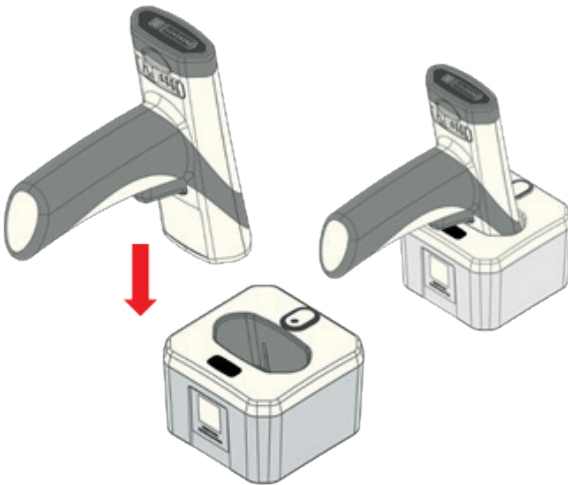

Figure 9 Charging Reader in Charging Station
- To charge the battery installed in the reader, place the reader in the charging station with the scan window facing down (Figure 9). The reader will beep once if the reader is powered off and wakes up, another beep if the reader has been paired with the charger and reconnects. The Power Gauge LEDs on the battery will start flashing 4 second on and 1 second off alternately. Once the battery is fully charged, the Power Gauge LEDs will stay on solid. The battery charging time may vary if the inductive charger is connected to a PC USB port.